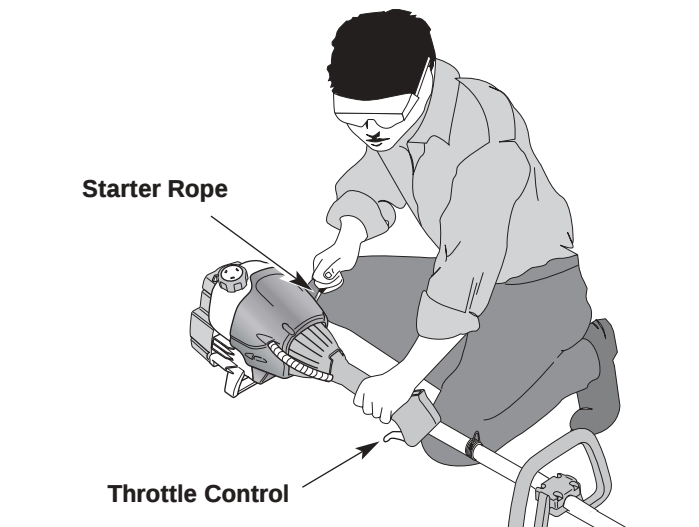

Fig. 5
WARNING: Avoid accidental starting. Be in the starting position when pulling the starter rope (Fig. 5). The operator and unit must be in a stable position while starting to avoid serious personal injury.
5. With the unit in the starting position (Fig. 5), **DO NOT SQUEEZE THE THROTTLE CONTROL**. Pull the starter rope 5 times briskly, with the EZ-Start™ lever pushed to the left. If the engine starts to run before the fifth pull, proceed to step 6.
1. Release your hand from the throttle control (Fig. 5). Allow the engine to cool down by idling.